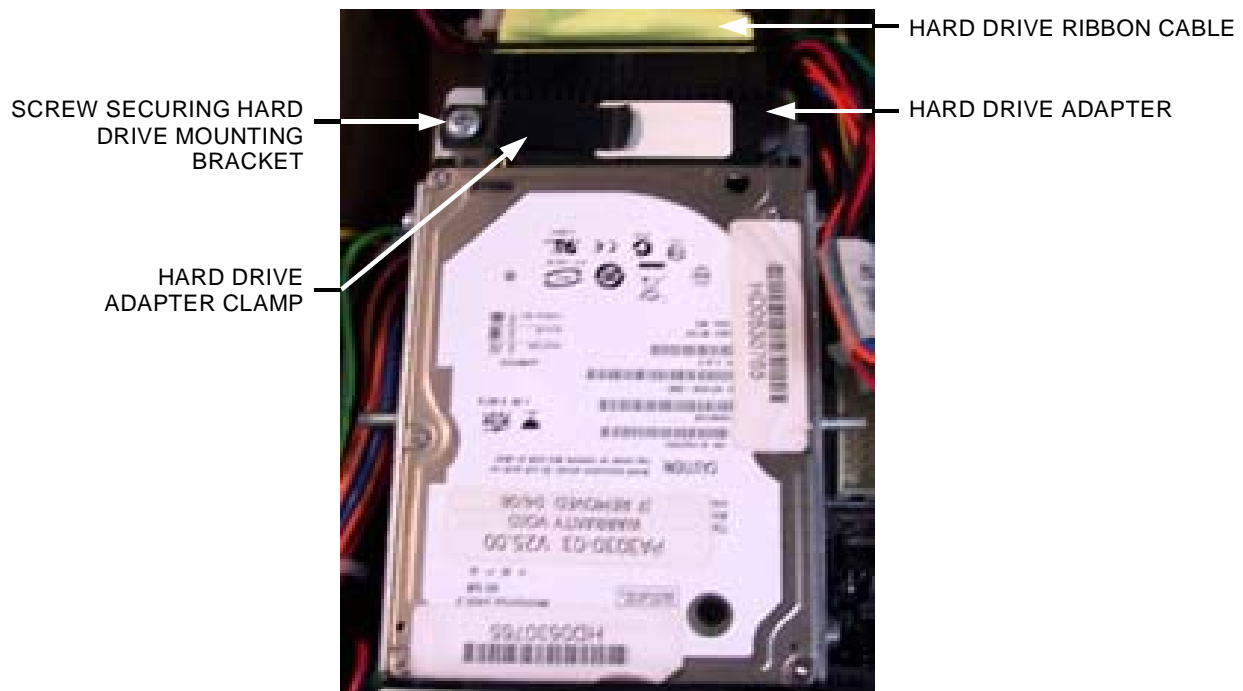

FIGURE 3 - CLOSEUP OF PATA HARD DRIVE
4. Remove the screw securing the hard drive mounting bracket to its mounting plate (see Figure 3). This screw will not be reused.
5. Remove the hard drive from its mounting plate by sliding the assembly up and off the mounting plate. Disconnect the hard drive adapter and attached ribbon cable from the hard drive (see Figure 3). Then, separate the hard drive adapter from the ribbon cable and 2-pin power cable. This hard drive adapter will not be reused.
1. Attach the 2-pin power cable in the game to the new hard drive adapter, which comes attached to the new hard drive. Do so by locating the two stand-alone pins on the hard drive adapter, and then sliding the 2-pin adapter onto these pins (for help, see the label on the hard drive adapter - see Figure 3). Note: The black wire on the power cord **MUST** be facing toward the label side of the hard drive adapter. Failure to do so could result in a damaged hard drive.
2. Attach the hard drive ribbon cable in the game to the new hard drive. Do so by lining up the pins on the hard drive adapter with the mating holes on the ribbon cable (the red stripe on the ribbon cable should be on the side opposite the power cable). Carefully insert the ribbon cable all the way into the adapter so that it is fully seated. See Figure 3.
3. Slide the new hard drive assembly onto the game's mounting plate. Be sure that the hard drive is flush to the mounting plate when doing so. Both the label on the plastic of the hard drive adapter and the label on the hard drive itself should be facing out. Align the hole in the mounting bracket with the hole on the mounting plate, then secure the supplied screw, washer, and clamp to the mounting plate. The clamp should rest on the hard drive adapter, holding it in place when screwed in tightly. See Figure 3.